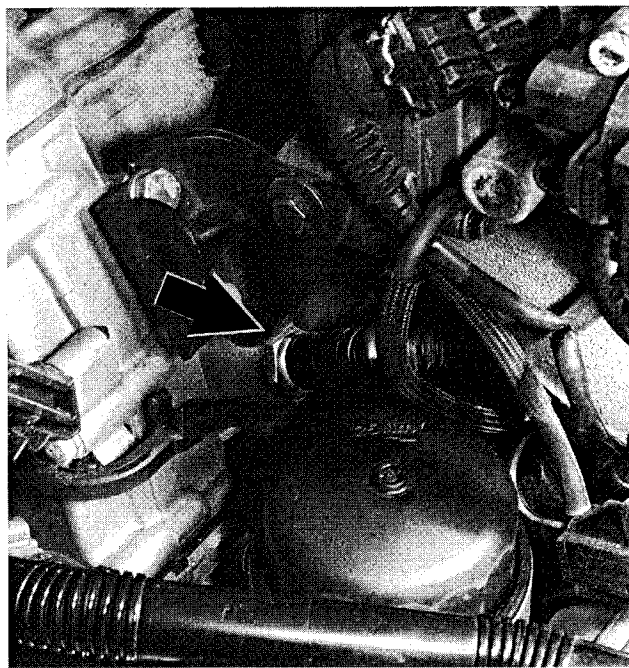

Fig. 33. M44 engine coolant temperature (ECT) sensor located above oil filter (arrow).
1. Disconnect harness connector from ECT sensor. See Fig. 33.